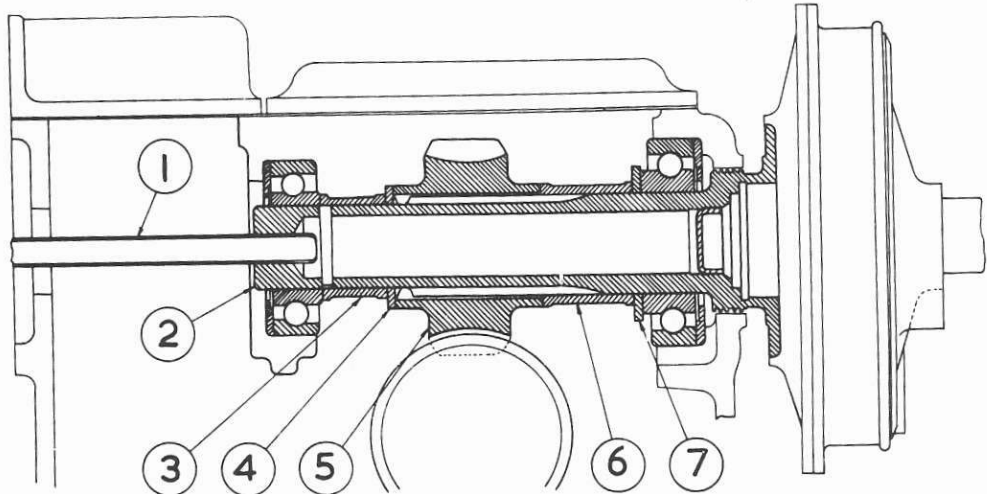

FIG.1. SECTION - SERVO MOTOR & SPEEDOMETER DRIVE.
- (iii) If the change gear support bracket has not already been removed prior to the removal of the gearbox from the chassis, then unscrew the set-bolts and nuts securing it to the gearbox and remove the bracket complete with the governor casing (if the latter is fitted). Before removal, push the change gear lever towards the gearbox and manoeuvre the unit out of position and withdraw the square speedometer drive shaft (1 Fig.1)
- (xi) Withdraw the servo drive shaft (2 Fig.1) simultaneously collecting the distance pieces (3 & 6), the adjusting washers (4 & 7), and the worm gear (5). It should not be necessary to remove the ball bearings of the drive shaft.